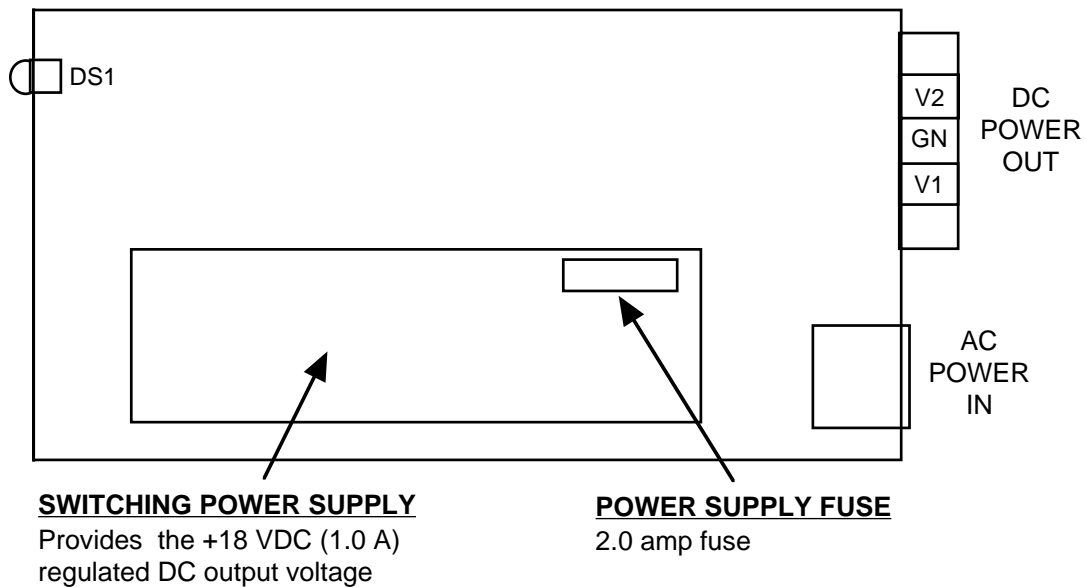

FIGURE 2.4 2000-02 On-Card AC Power Supply Fuse
The **primary fuse** is in the AC connector fuse box (Figures 2.3 and 2.5). Figure 2.4 shows the **secondary fuse** on the power supply.
3. With AC Power disconnected, replace fuse with a 2.0 amp fuse (Figure 2.4).
5. Install four (4) rear panel screws.
4. **AC Fuse** - The fuse is a 5 mm X 20 mm, 2 amp slow blow (Type T) and is inserted in the far slot in the drawer below the AC input as shown in Figure 2.4. There is a spare fuse in the near slot. If a fuse continues to open, the power supply is most likely defective.